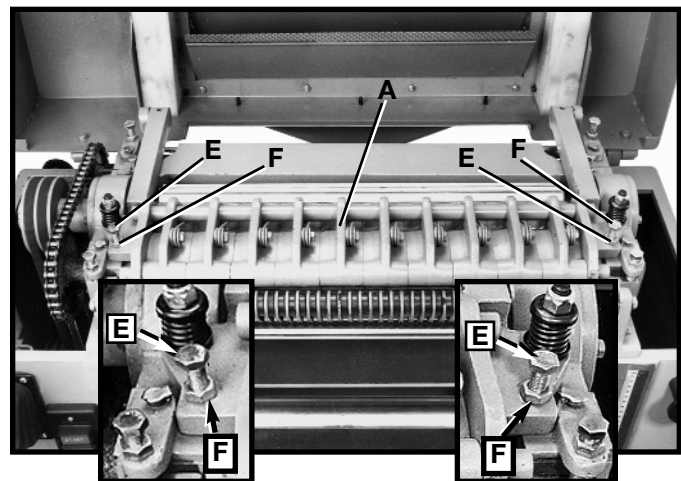

Fig. 37
The chipbreakers (A) Fig. 37, are located on top of the planer and extend downward around the front of the cutterhead. The chipbreakers will rise as stock is fed through the planer and “breaks or curls” the wood chips. The bottom of the chipbreakers must be parallel to the knives and set .040 below the cutting circle. To check and adjust the chipbreakers, proceed as follows:
5. If an adjustment to the chipbreakers is necessary, loosen two hex nuts (E) Fig. 37, and turn adjustment screws (F) until chipbreakers (A) touch gage block (B) at both sides of the table.